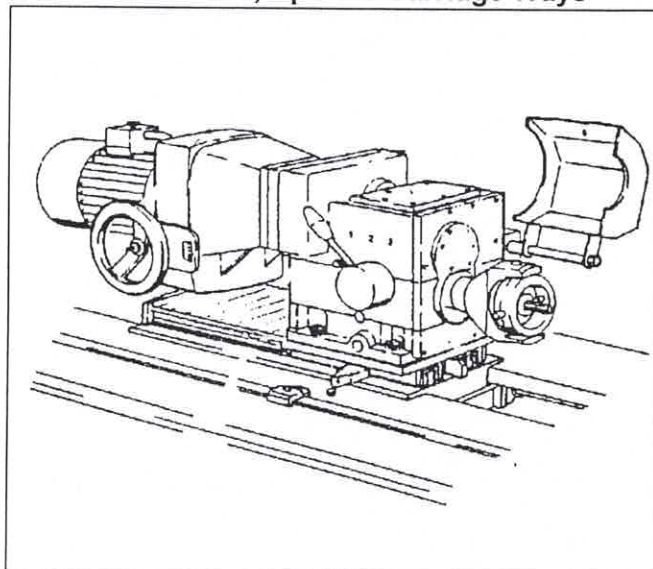

FIGURE 4-2; Spindle Drive Gear Box
3. **SPINDLE DRIVE GEAR BOX** (see Figure 4-2)